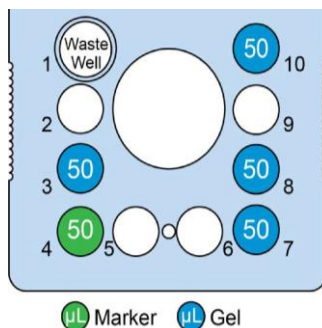
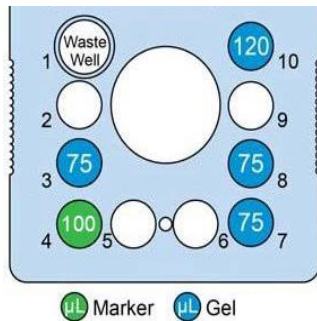

Figure 2. Low-Throughput Chip Preparation
Figure 3. High-Throughput Chip Preparation
- 5 Using a reverse pipetting technique to avoid introducing any bubbles into the wells, add **Gel Matrix** to wells 3, 7, 8, and 10 as shown in Figure 2 (Low-throughput) or Figure 3 (High-throughput).
- 6 Add **50 μL** (Low-throughput) or **100 μL** (High-throughput) of **Marker** (green cap ●) to **chip well 4** as shown in Figure 2 or Figure 3 with reverse pipetting technique.
If running 24 or 72 wells, use the volumes in Table 7 to prepare the chip. Make sure to wash the chip as soon as the run is complete to avoid any risk of evaporation. When running less than 24 wells over an eight-hour period, use the high-throughput (Figure 3) chip preparation volumes due to evaporation.